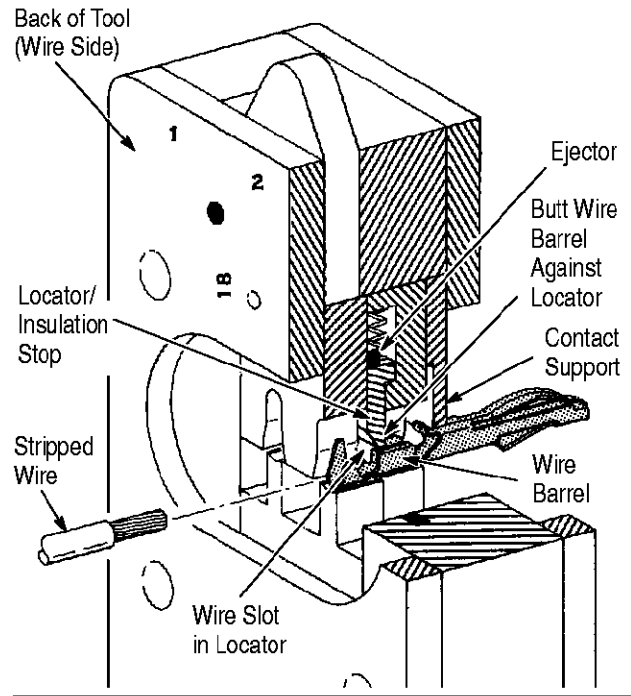

Figure 4
5. Next, push the contact in until the WIRE BARREL butts against the locator/insulation stop. See Figure 4.
7. Insert a properly stripped wire through the wire slot in the locator and into the wire barrel of the contact until the insulation butts against the locator/insulation stop. See Figure 4.
1. Slide the insulation adjustment lever to position 3 (marked on the back side of the tool). Refer to Figure 4.